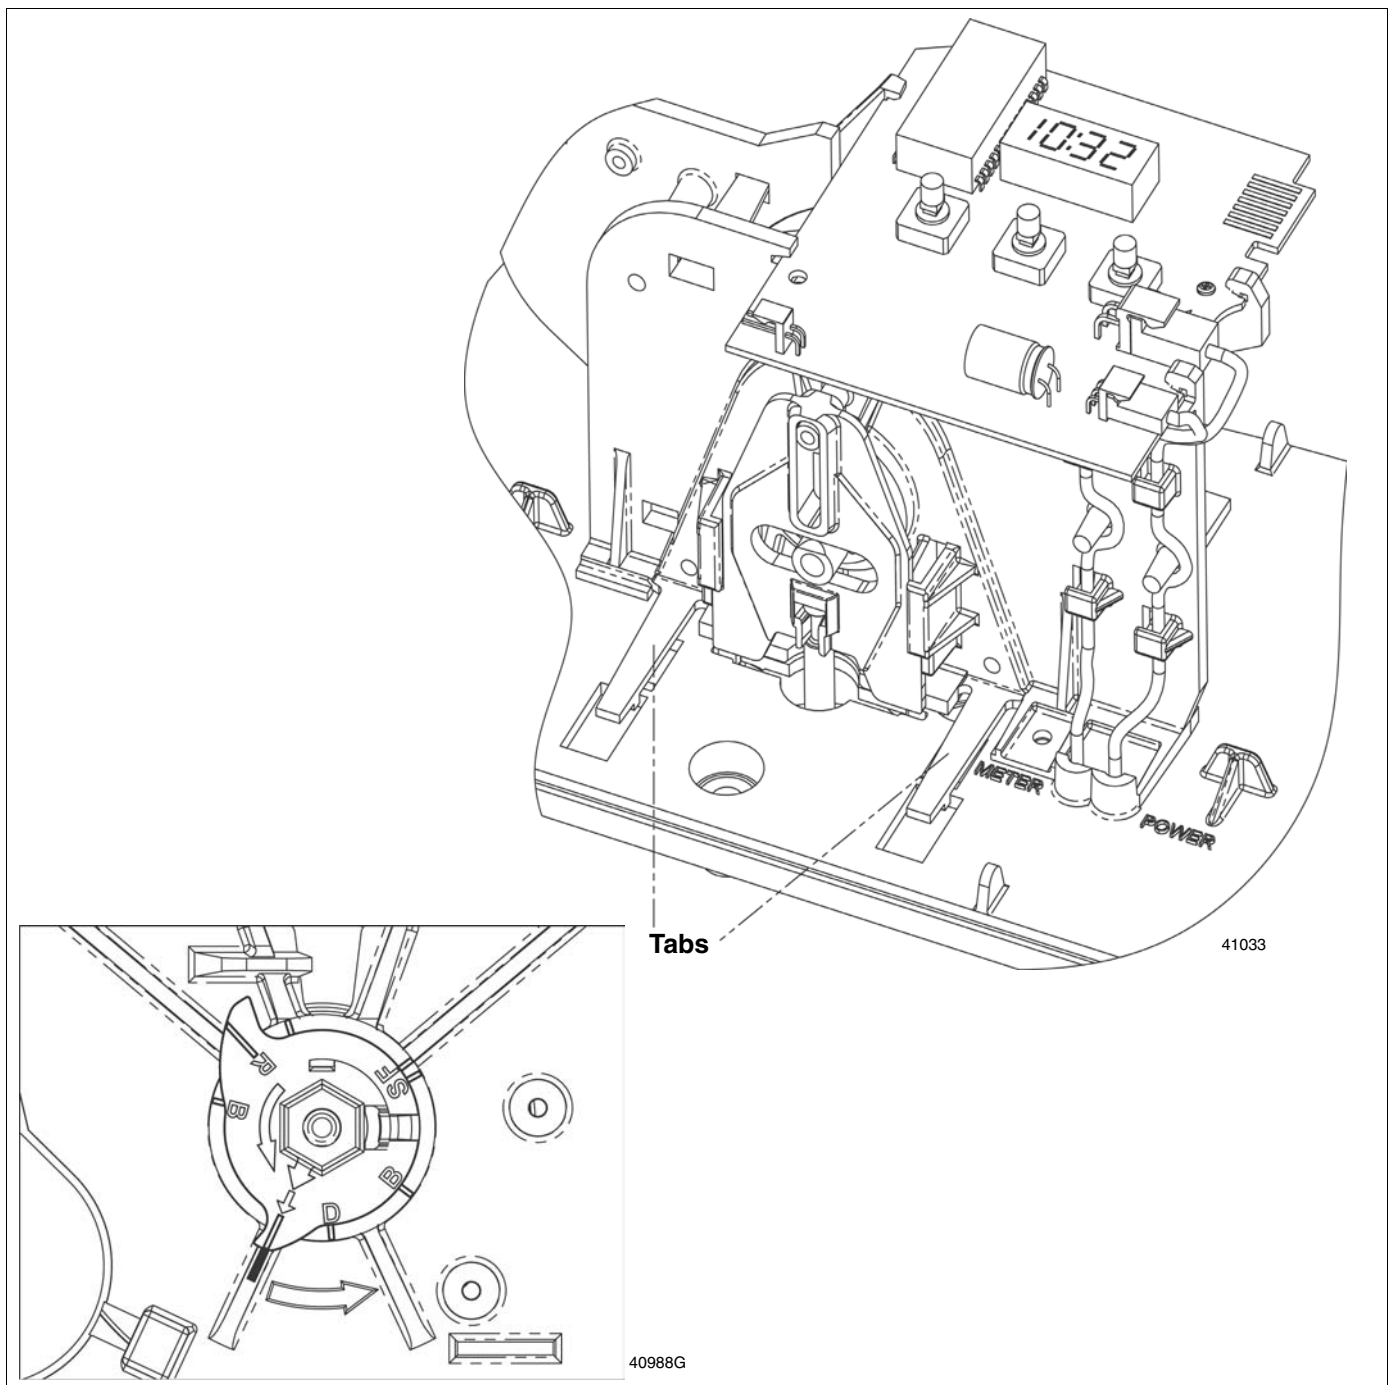

Figure 26: Removing the Gear Box Assembly
2. With 3/8" nut driver, turn the cycle cam counter-clockwise to the position shown in Figure 26 above.